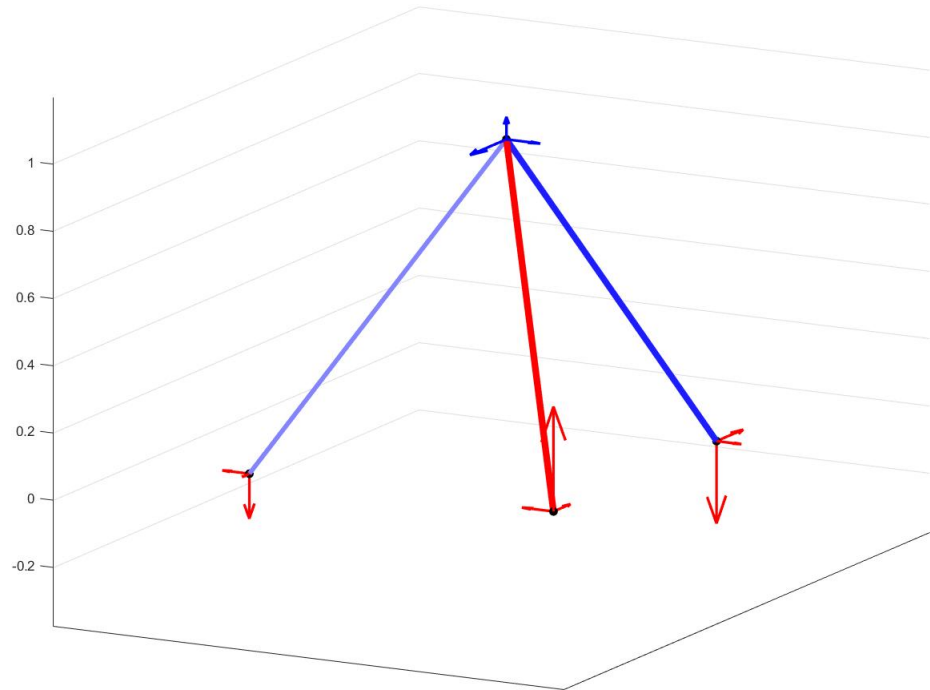

Figure 2: Schematic overview of the truss system. Reaction forces are shown in red and external forces are shown in blue.
In this second assignment we are going to write a script for calculating the unknown forces in a statically determinate truss system in three dimensions. The truss system that will be used to write and test the script can be seen in Figure 2.
- hint: Check whether the frame was defined correctly by running the `Mod1_Ass2_plotFrame3D.m` script (available on Canvas). The result should look like figure 2.*
- vii) Now finally solve the A matrix and check if your answer is correct. It should look like figure 2. You can call the `Mod1_Ass_2_plotFrame3D.m` function to see the final 3D plot.